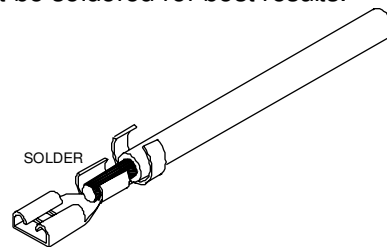

FIG 5
- Use the supplied 1,5mm2 wire to make the connections. For best results, solder the female push-on connector (fig 5). Apply enough heat, in order to make a good solder joint.
Use the supplied female push-on connectors (fig 5) and solder them onto the wires !
- Position this assembly onto the enclosure, and put the silver button head hexagon socket screws in place. Tighten them by hand. Connect the chromed vertical plate to SK22 (chassis earth) with a length of yellow/green striped wire and 2 female push-on terminals. Make sure you solder both terminals. (See fig 5)